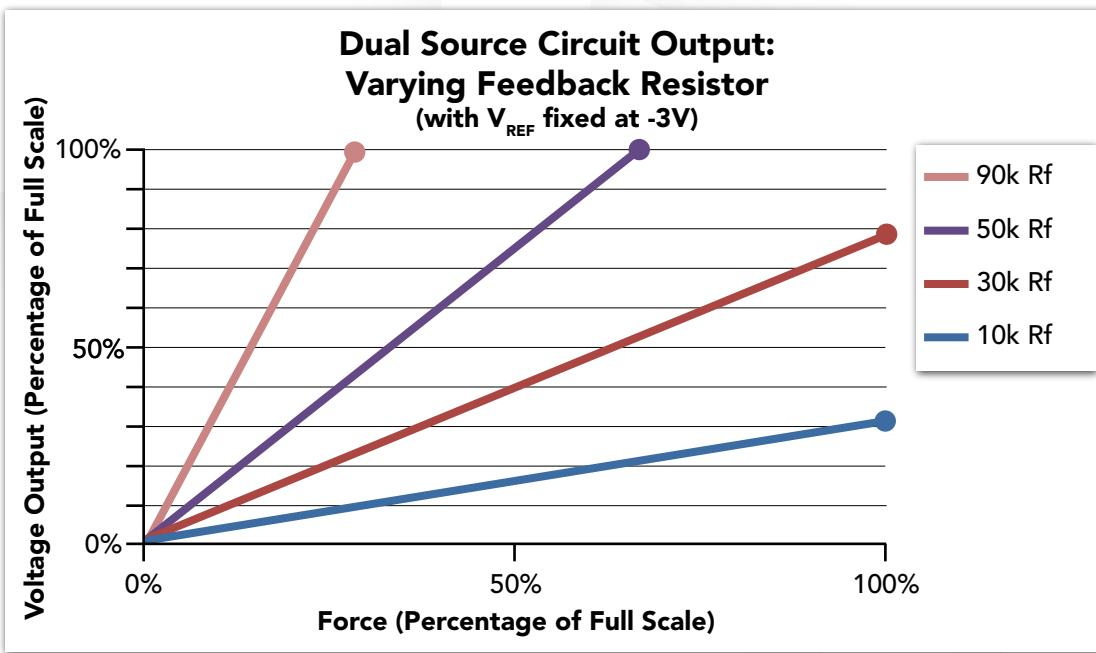
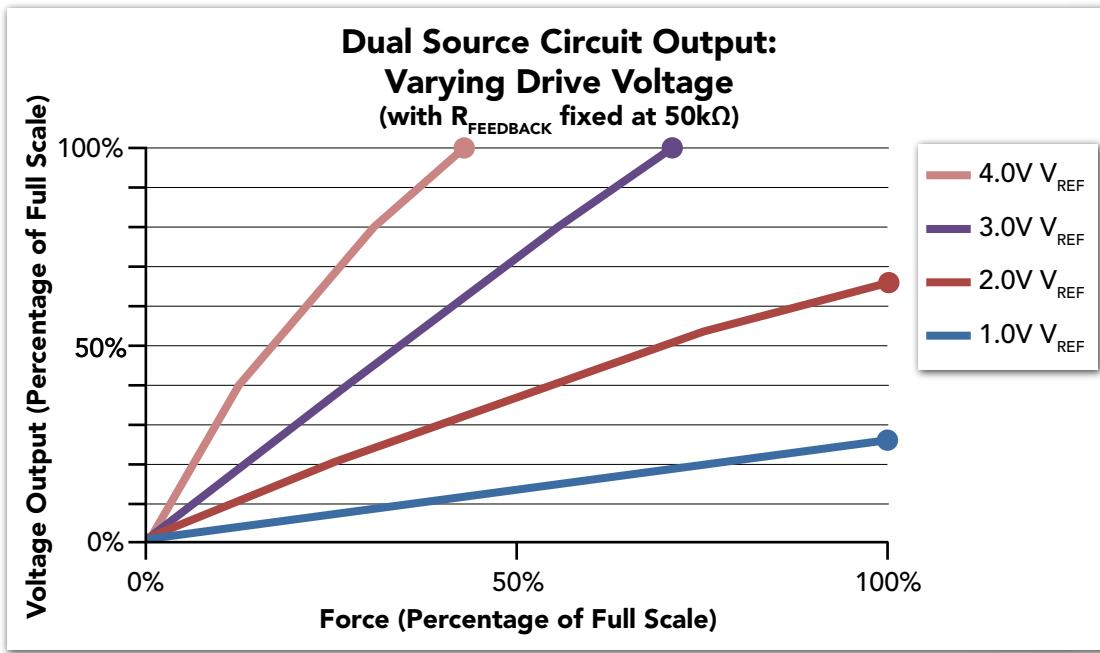

FIGURE 11
FIGURE 12
**Fig. 11** shows the relationship of the output voltage vs. force applied to the sensor with drive voltage,  $V_{REF}$  fixed at -3 volts. By inspecting this graph, it is seen that decreasing  $R_f$  decreases the sensitivity of the circuit output for a given force (extended force range). Conversely, larger  $R_f$  values increase the slope of the voltage output versus force curve and therefore increase the sensitivity of the circuit (decreased force range). **Fig. 12** shows the  $V_{OUT}$  versus Force relationship with a varying drive voltage,  $V_{REF}$  and fixed  $R_f$  resistance value of  $50\text{k}\Omega$ . Similarly to the effects of varying the feedback resistor value, an increase drive voltage will result in higher sensitivity (decreased force range) and a decreased voltage will result in lower sensitivity (extended force range).